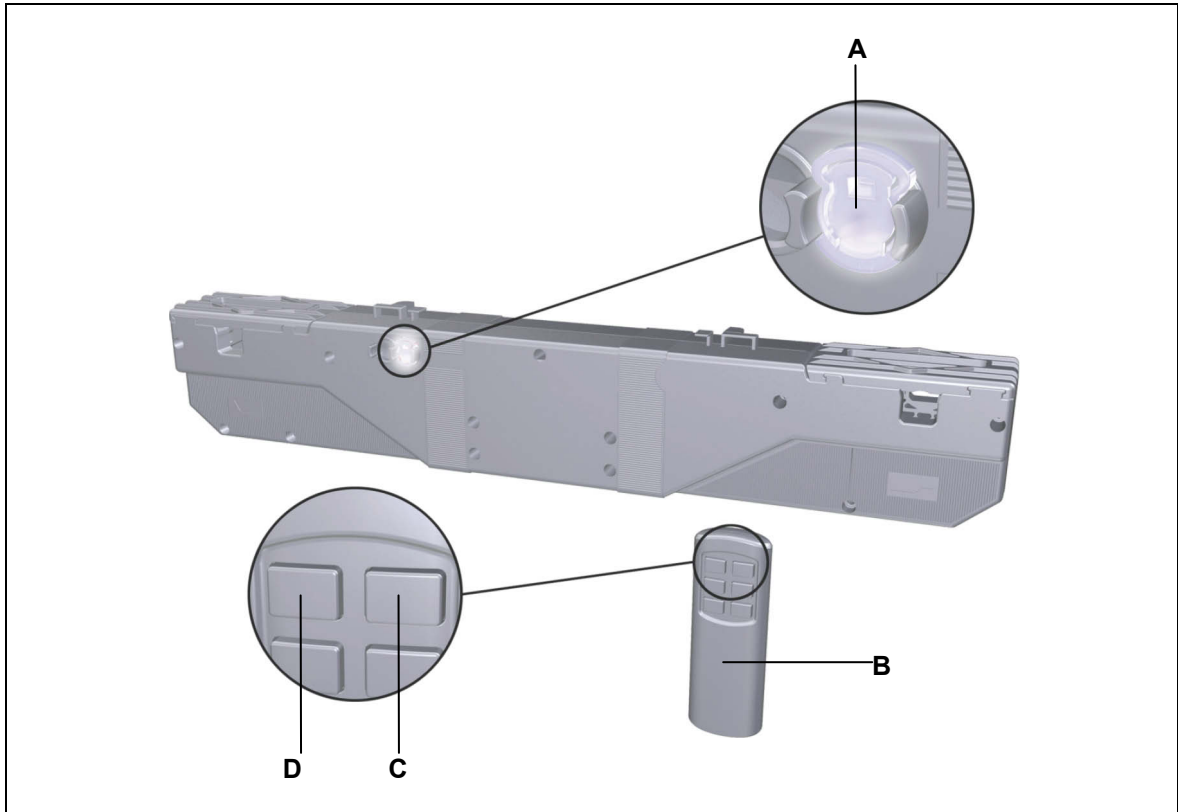

Figure 21 Programming the RF Eco hand-held remote
- 1 Press the function key on the drive (**A** in Figure 21) twice (a quick double click). The drive will now be in the teach-in (programming) mode for approximately 10 seconds. The LED on the function key lights up.
- 1 Press the function key on the drive (**A** in Figure 21) four times quickly.